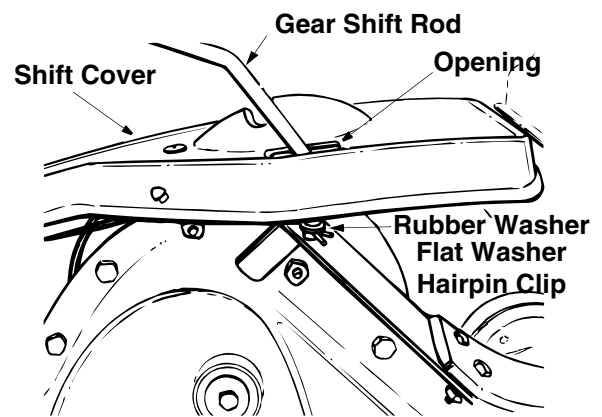

Figure 6
- Insert the end of the gear shift rod through the opening in the top of the shift cover, and into the shift bracket. See Figure 6. Secure with rubber washer first, then flat washer and hairpin clip.